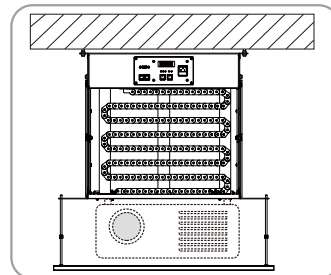

Figure 19
- Adjust the height of decorative ceiling plate depended on the actual ceiling height, and twist setscrew nut on the 200mm long screws assembled in the four corners of decorative ceiling plate. Themax heightis about 200mm (Figure19).